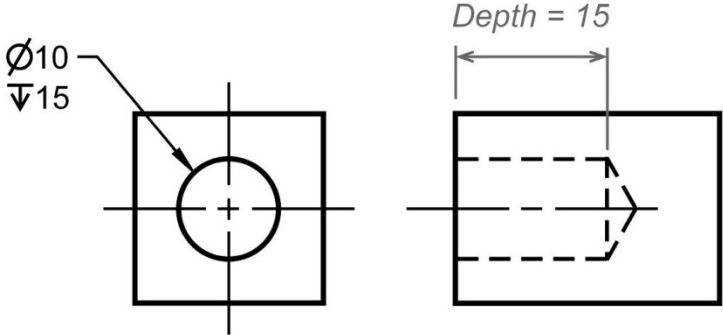

Figure 2-6: Dimensioning a blind hole.
- d) The depth of a blind hole may be specified in a note and is the depth of the full diameter from the surface of the object. Figure 2-6 illustrates how to dimension a blind hole (i.e. a hole that does not pass completely through the object).